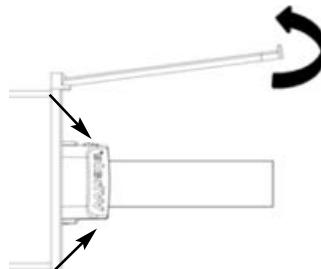

Fig. 8
- Fig. 8 Removing EP1622 & EP1322 plug